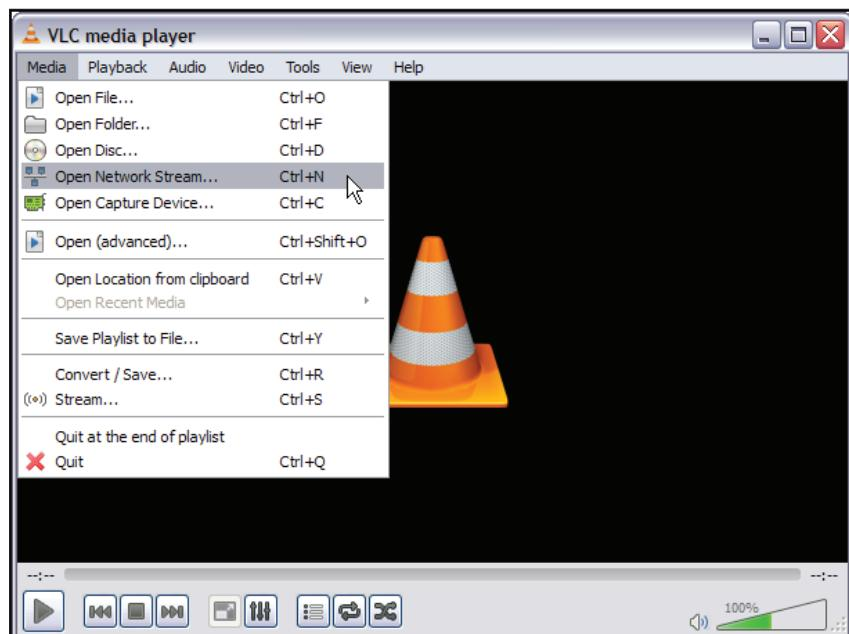

Figure 79. VLC Media Player – Open a Network Stream
4. The media player opens. Select **Media>Open Network Stream** (see figure 79).
5. The Open Network Media dialog box opens. Enter the stream URL that was noted in step 2 (see figure 79 on the previous page) in the **Please enter a network URL:** field (A).